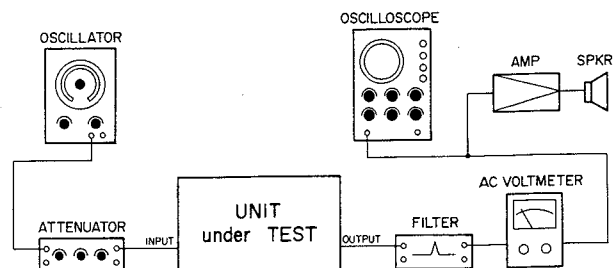

Fig. 7-36. Erase Ratio Test Set-Up
1. Connect test equipment to the tape deck as shown in Fig. 7-36.